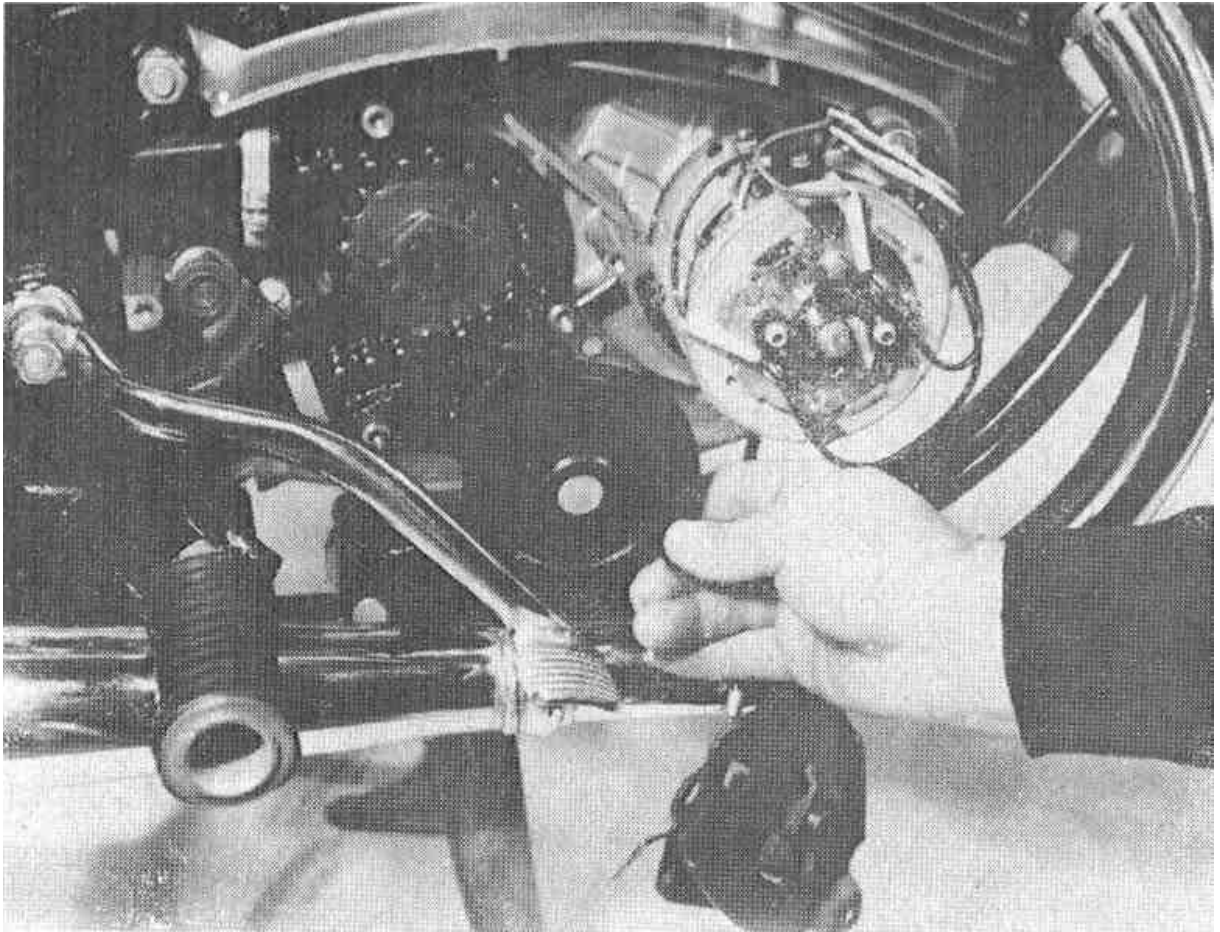

Fig. 33 – Removal of chaincase front part
- a) Remove the rear wheel and the right-hand crankcase cover. Remove the bracket of the clutch release mechanism and leave it suspended on the clutch cable. Remove the screws of the front clamps of the rubber sleeves and lift away the front part of the chaincase next to the gearbox (see Fig. 33).
- d) Remove the screws of the rear clamps and pull the rubber sleeves off the two-part chaincase. After having unscrewed the two M 5 nuts, separate both halves of the chaincase and lift away the chain wheel with the chain. Clean thoroughly the chain and the chaincase parts (Fig. 33 and 34).